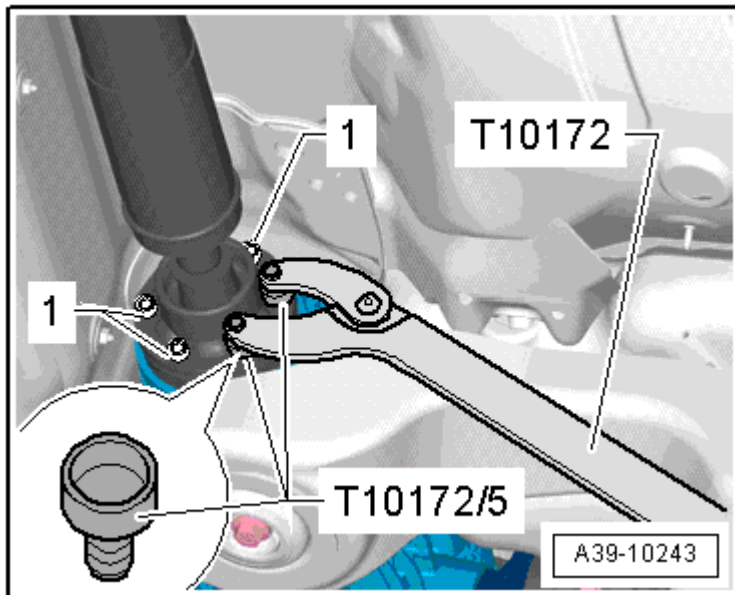

Fig. 29: Locating Driveshaft Bolts
- Follow the tightening sequence for attaching the driveshaft bolts to the rear final drive. Refer to **Fig. 29**.
- Remove the driveshaft bolts on the rear final drive. Tighten the driveshaft following the tightening sequence. Refer to **Fig. 29**.
- Tightening specification and sequence, refer to **Fig. 29**